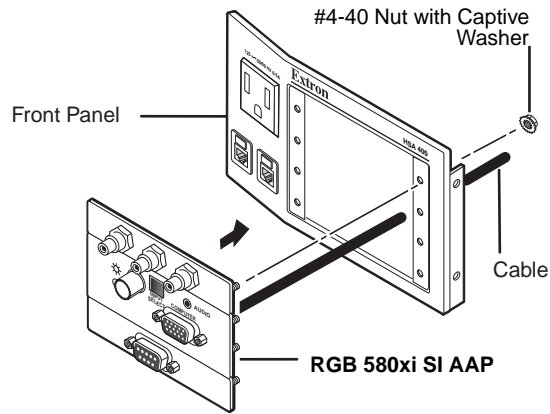

Figure 2-5 — Mounting an AAP device to an HSA 400 US front panel
3. Insert each of the AAP's screws through the holes in the AAP opening of the front panel. Secure each AAP to the panel with the provided captive washers and #4-40 nuts (figure 2-5).